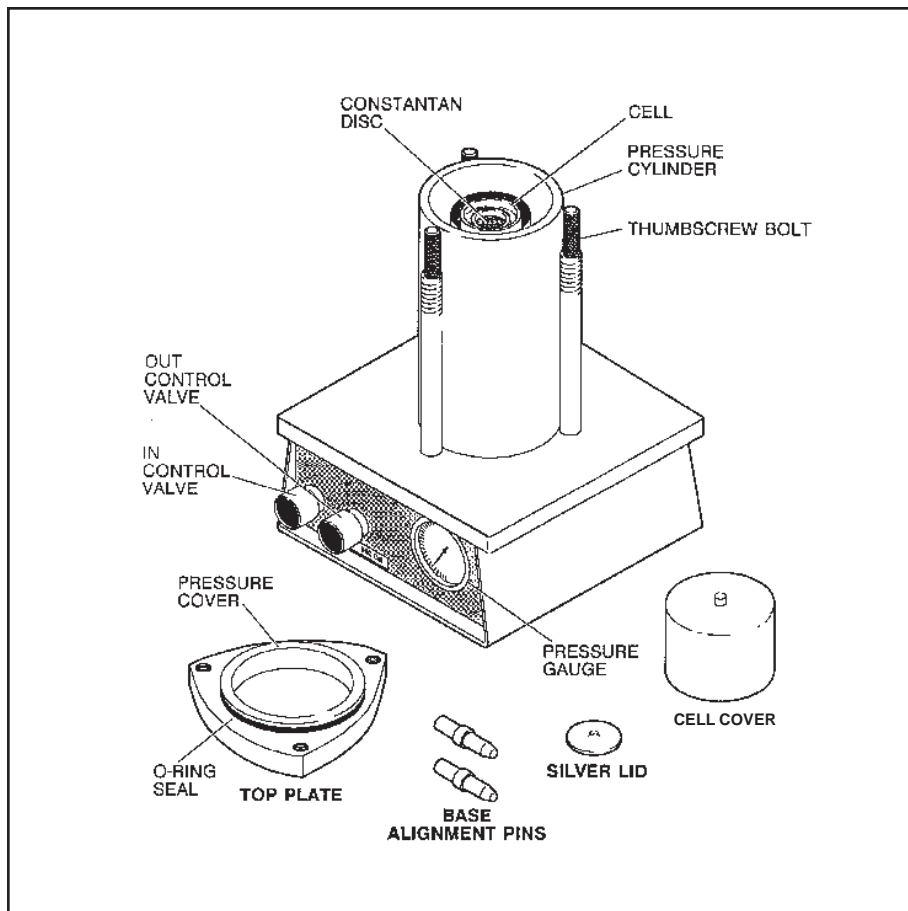

Figure 3.8
3. Unscrew the three thumbscrew bolts (Figure 3.8) from the top plate. Do not use tools to open or close the cell.